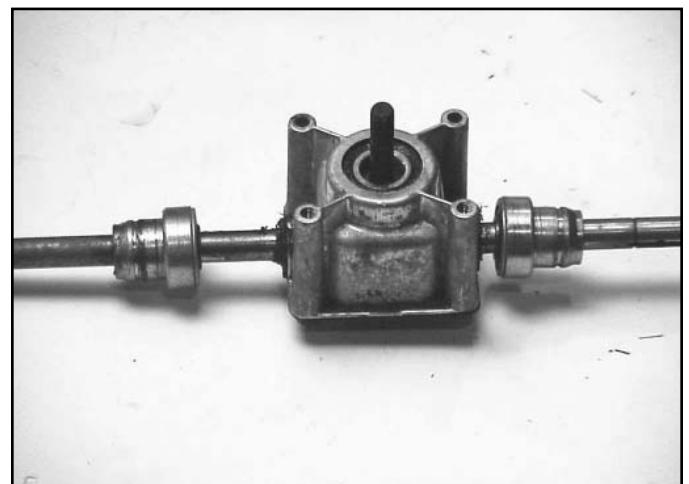

Fig 105
17. The last step is to slide the bearings and bearing retainers off the axle (Fig. 105).